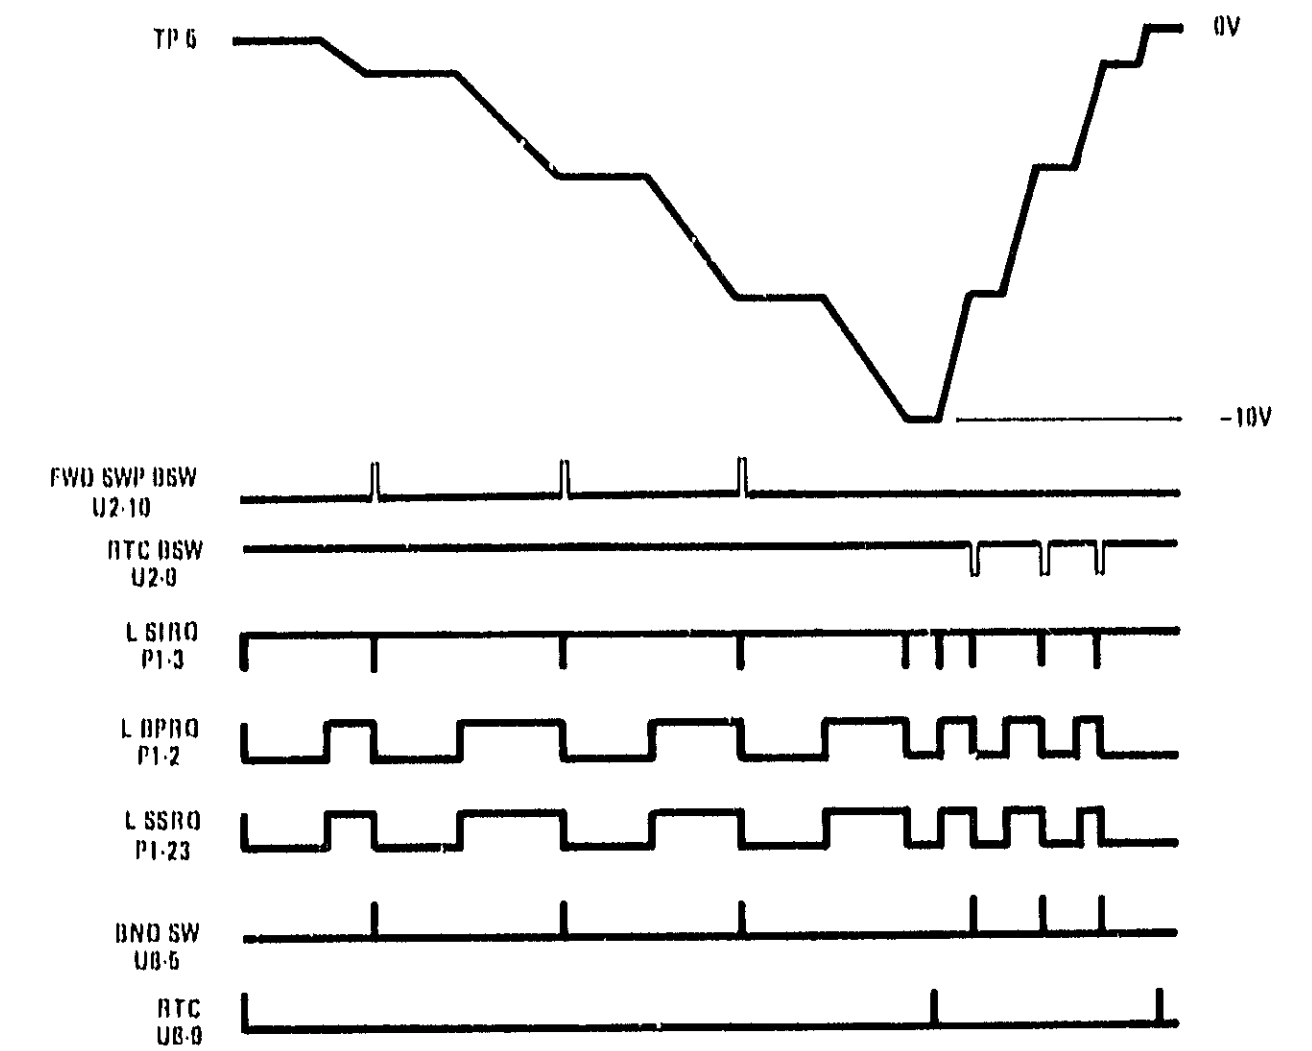

Figure 8-48 Sweep Control/Interrupt Logic Waveforms
1. Verify operation of the Bandswitch Comparator by checking the FWD SWP BSW (U23 pin 7) and RTC BSW (U14 pin 7) waveforms as shown in Figure 8-48.
2. With an Oscilloscope, check the following edge-connector pins: P1-3 (L SIRQ), P1-1 (L RTS), and P1-23 (L SSRQ). The appropriate waveforms are shown in Figure 8-48.